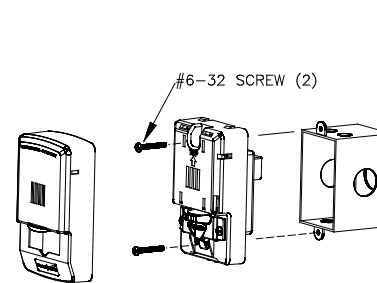

Figure 5: Installation
- Install device as shown in Figure 5 to a single-gang backbox with the provided pan head screws.